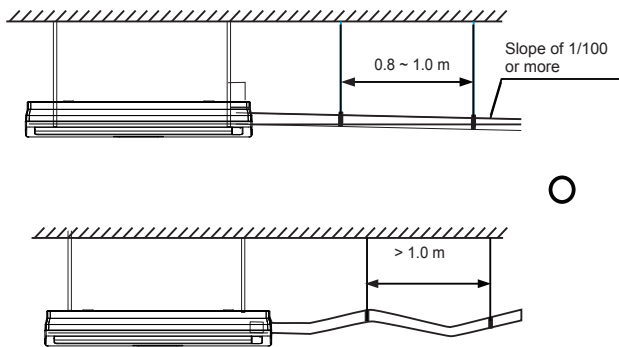

Figure 5.1
- In order to prevent the back-flow of water into the interior of the air conditioner when the operation stops, during installation, make sure the water discharge pipe slope downwards towards the outside (drainage side) at a slope of more than 1/100. Make sure that the water discharge pipe does not swell or store water, otherwise it will make unusual sounds. See Figure 5.1.
- When connecting the water discharge piping, do not use force to pull the pipes to prevent the water suction pipe connections from coming loose. At the same time, set a supporting point at every 0.8~1 m to prevent the water discharge pipes from bending. See Figure 5.1.